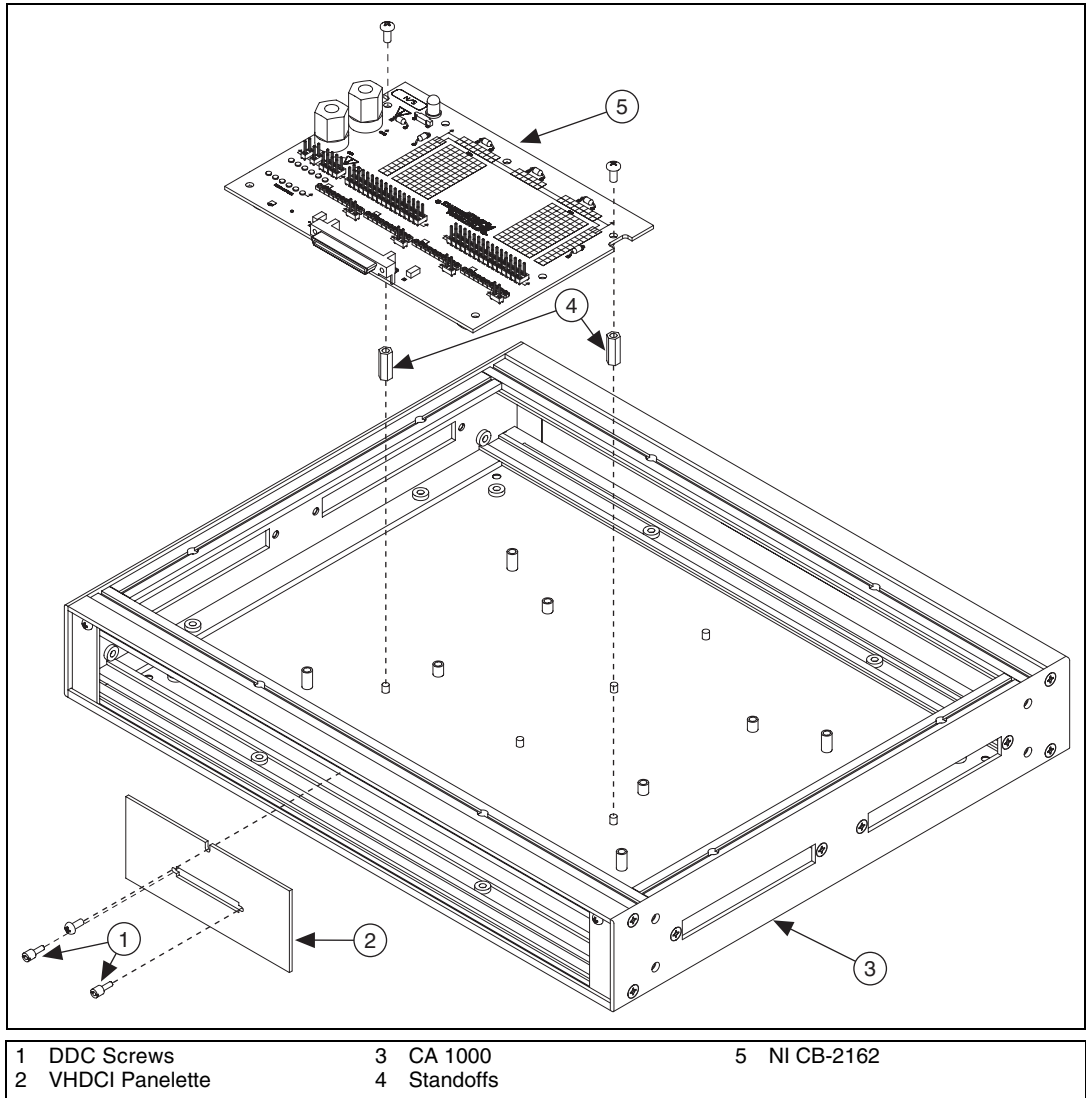

Figure 12. Secure the NI CB-2162 and Attach the I/O Panelette
Refer to Figure 12 as you complete the following steps.
4. Screw the standoffs onto the threaded screws in the locations shown in Figure 12.